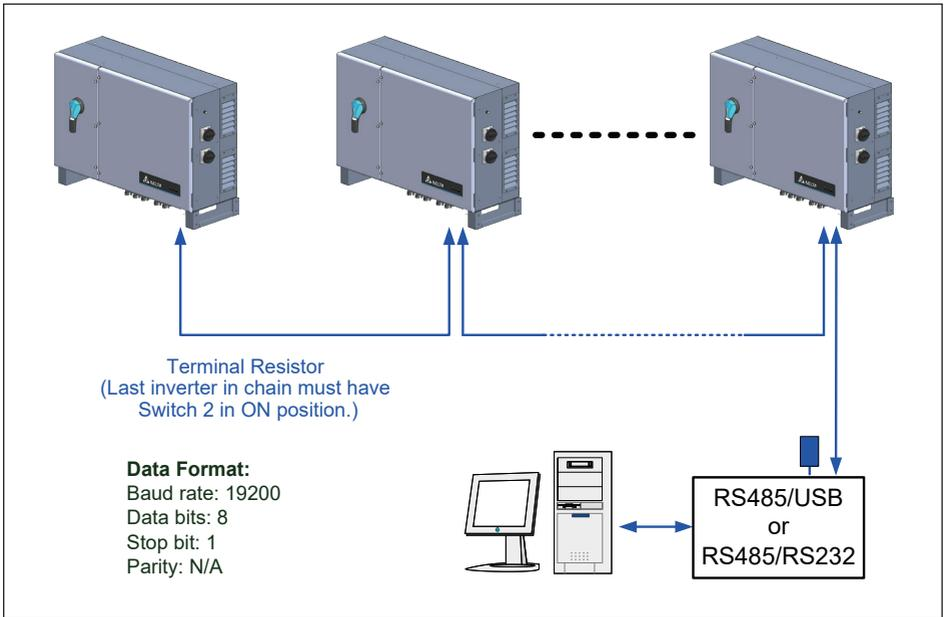

Figure 3-24: Multiinverter connection illustration
A 120ohm bus termination resistor and associated control switch are located on the communication board (See **Figure 3-24**) The switch function is as shown in **Table 3-2**.
- When several inverters are cascaded (i.e., "daisy-chained") only the last inverter in the chain must have its bus termination resistor switched ON. Refer to **Figure 3-24**.